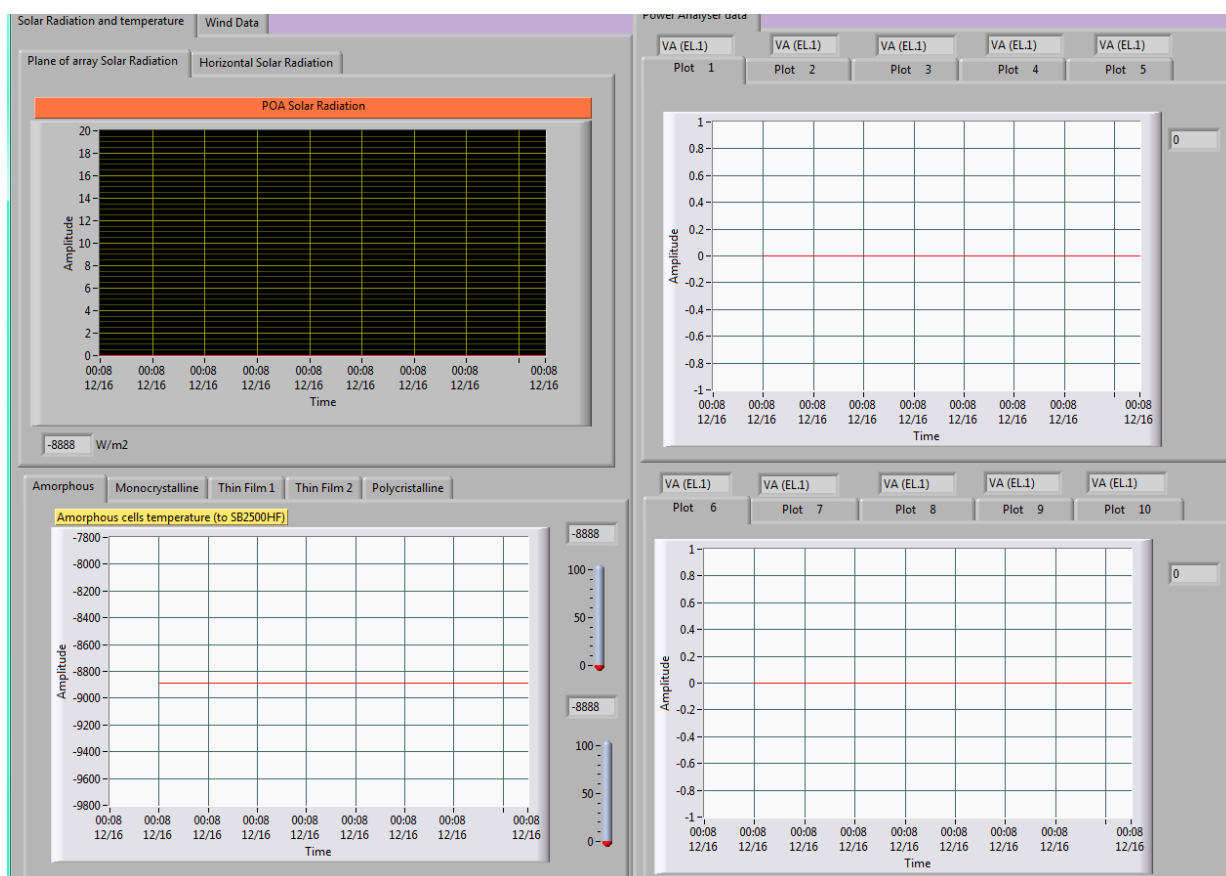

Figure 3: RealTimePlots.vi control pane
8. The user can choose as much as 10 real time plots to be displayed. The “view plots” button is used to view the generated plots (see figure 3).